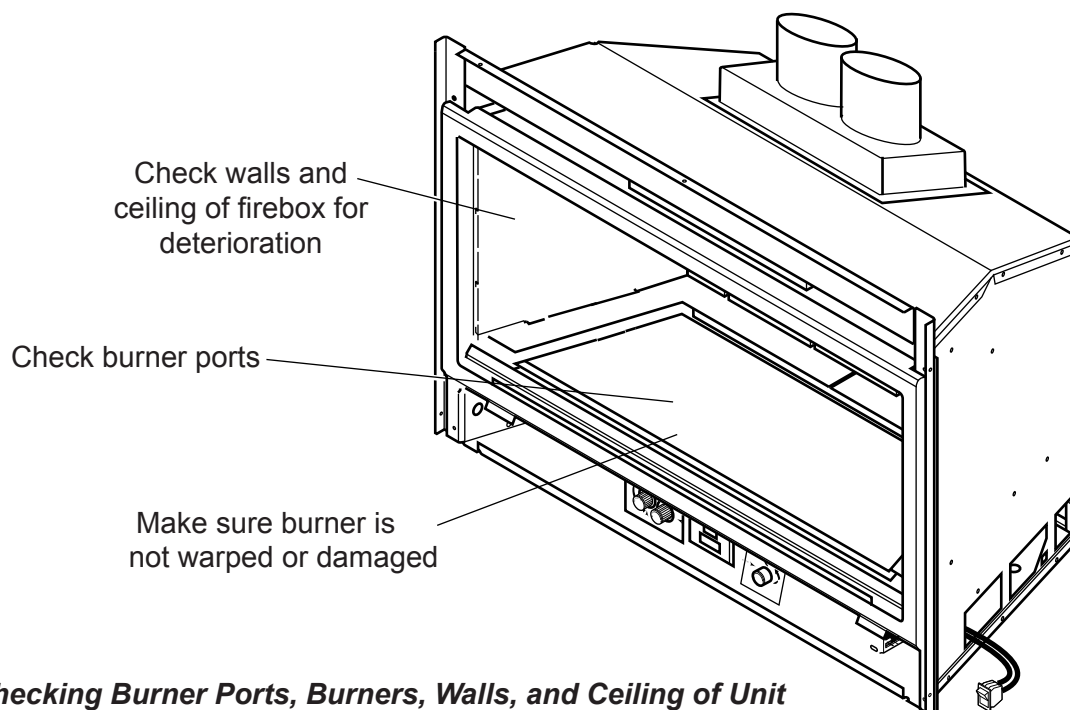

Figure 30 - Checking Burner Ports, Burners, Walls, and Ceiling of Unit
4. Clean burner and burner ports. Inspect the following. *See Figure 30:*